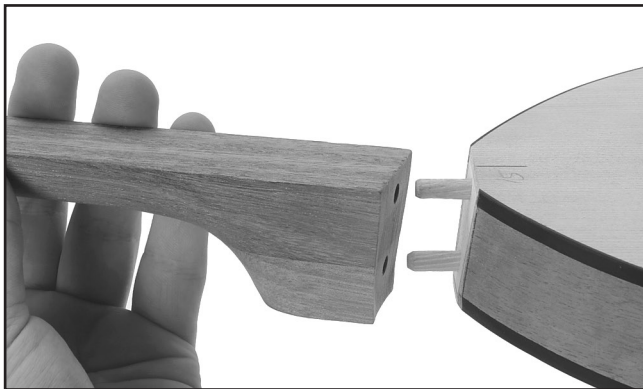

Figure 5. Test fitting the neck.
1. Test fit the neck by pushing the dowels into the body of the mandolin and sliding the neck onto the dowels as shown in **Figure 5**. DO NOT glue the joint at this time.